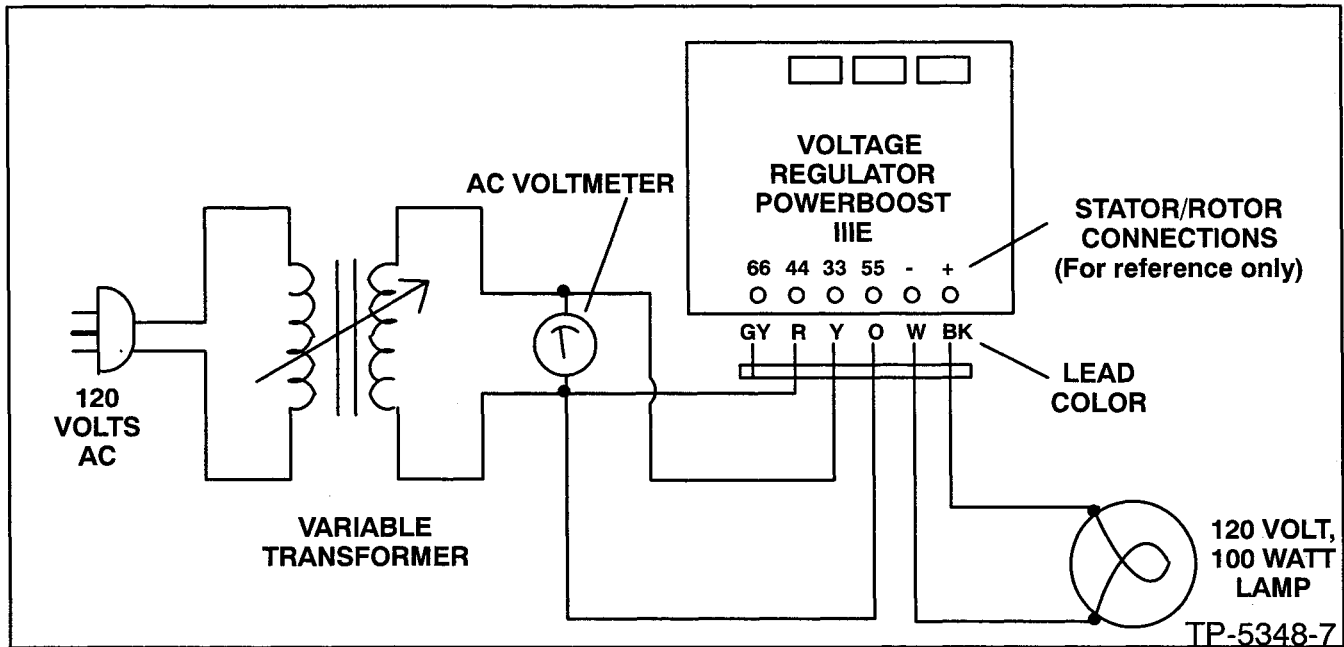

Figure 7-3. PowerBoost III E Voltage Regulator Test.
1. Connect components as shown in Figure 7-3.